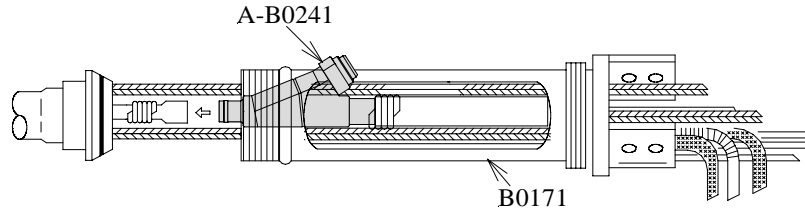

Fig.4-1-3
- 1) Wipe the pipe of the Biopsy Inlet T-piece (A-B0241) with E/M solution damped tissue paper and place it into the FWD Body Frame (B0171) as shown in Fig.4-1-3.